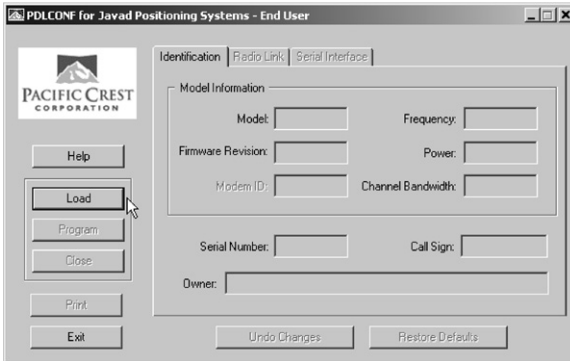

Figure 2-24. Click Load
8. Click **Load** to connect to the radio (Figure 2-24).